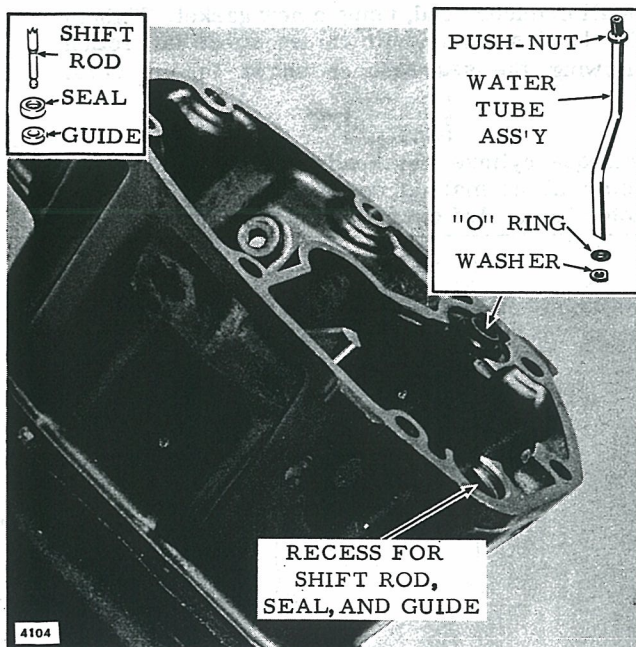

Figure 5-34. Water Tube and Grommet
c. Place gasket and pilot ring on crankcase. Install exhaust housing to power head while holding bottom end of shift rod and water tube to retain the seal and "O" ring in position in their recesses in the exhaust housing and power head. Torque attaching screws to specifications given in Section 2. See Figure 5-34.